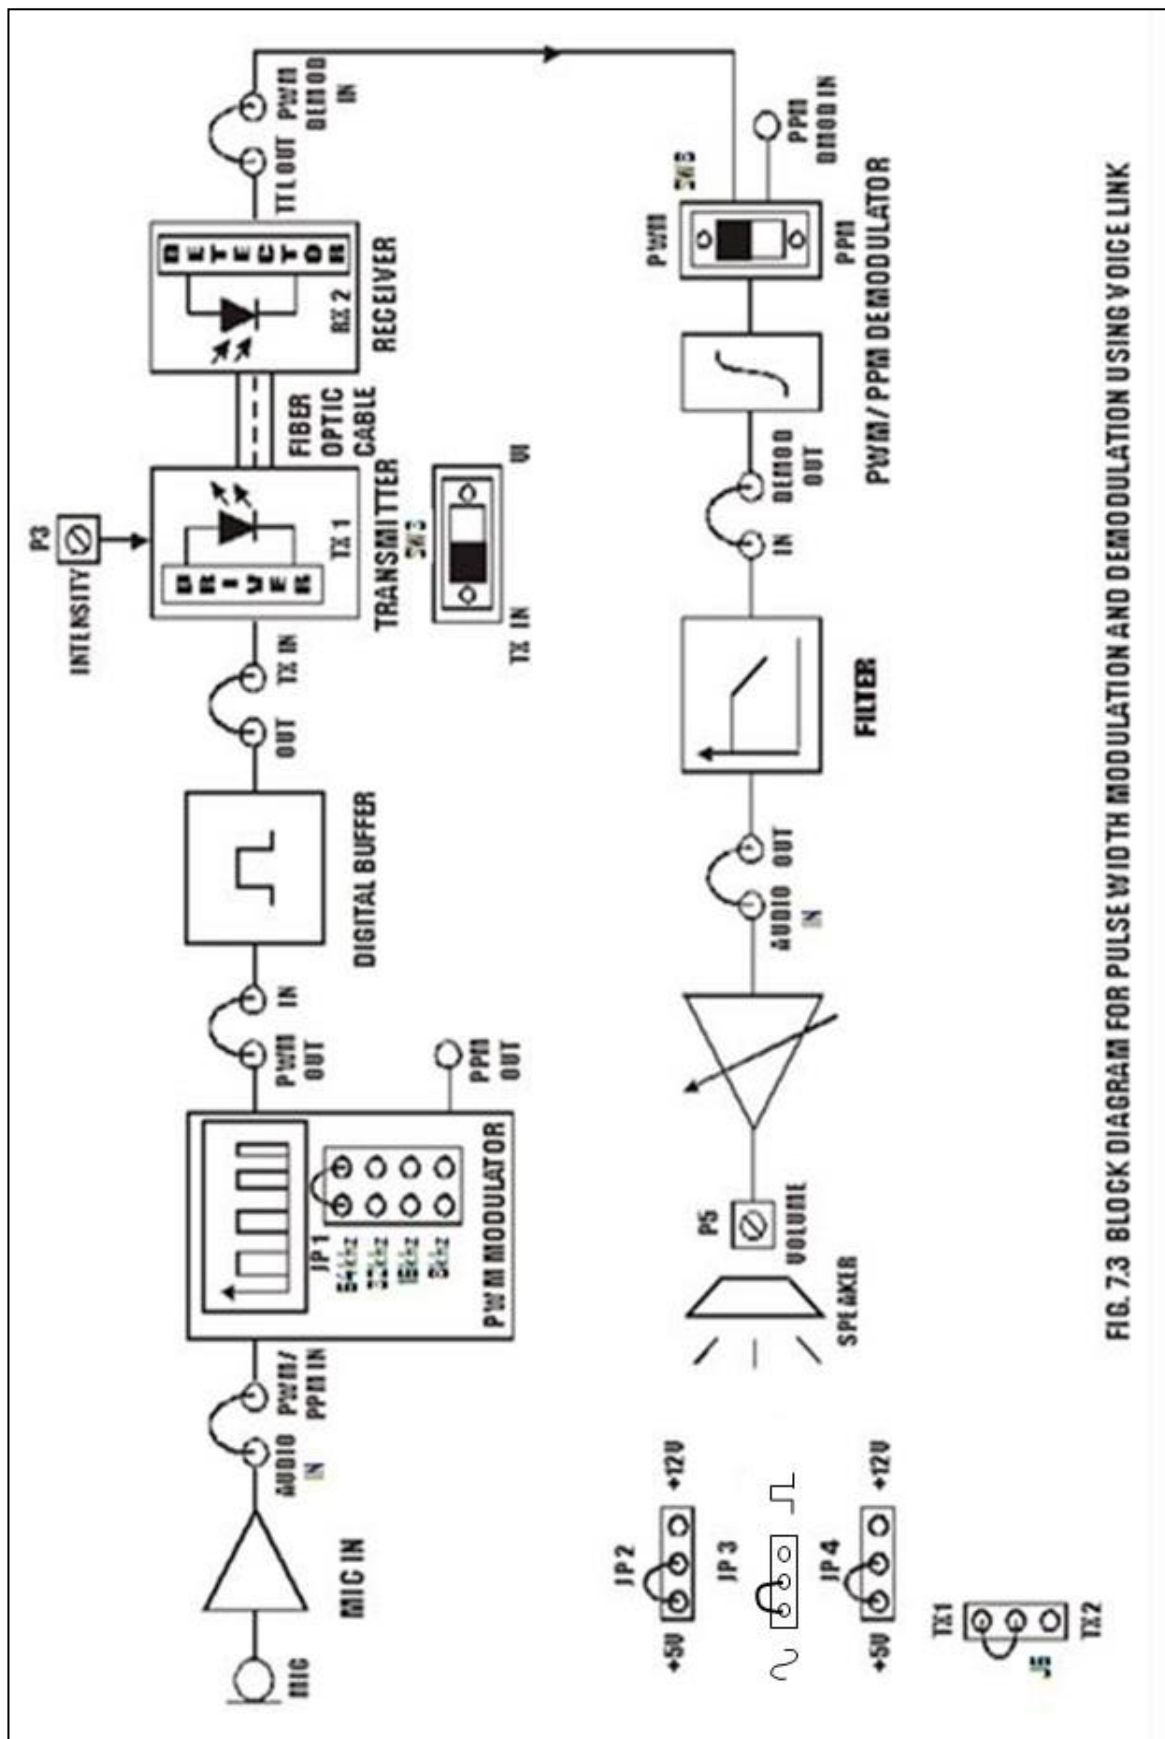

FIG. 7.3 BLOCK DIAGRAM FOR PULSE WIDTH MODULATION AND DEMODULATION USING VOICE LINK
- Make the connection on the Kit as per the Connection Diagram **FIG. 7.3**. Connect the power supply cables with proper polarity to kit. While connecting this, ensure that the power supply is OFF.